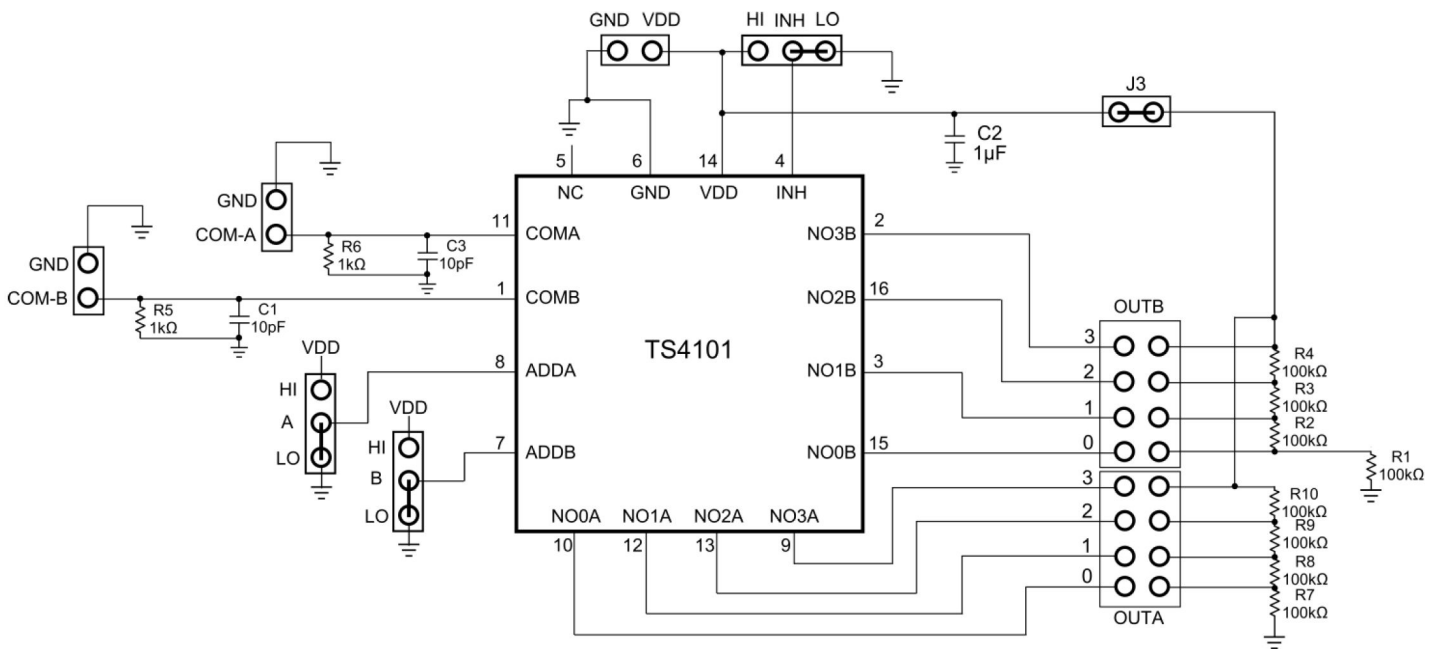

Figure 2.2. TS4101DB Schematic
4. Find the 8-pin header on the board labeled OUTA and OUTB. Refer to Figure 2.2 TS4101DB Schematic on page 6. Place a jumper on the two-pin header labeled 3. This sets a dc voltage channel NO3A and NO3B.